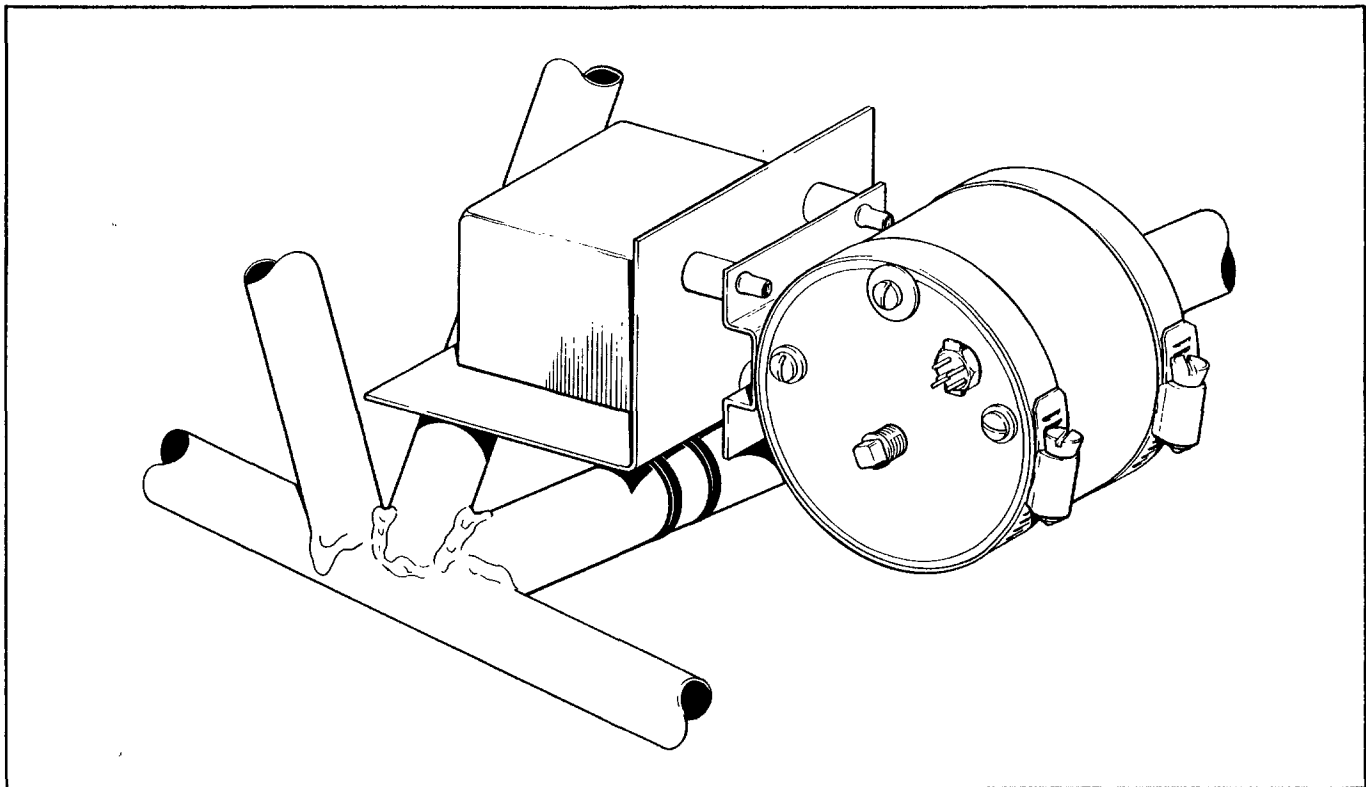

Figure 3-14. AltiMatic III C Altitude Hold Unit (1C407) and Relay Box
**3-15. INSTALLATION OF ALTITUDE HOLD UNIT. (PA-23-250 Six Place) E & F Models. (Refer to Figure 3-14.)**
**3-17. INSTALLATION OF RELAY BOX. (PA-23-250 Six Place) E & F Models. (Refer to Figure 3-14.)**